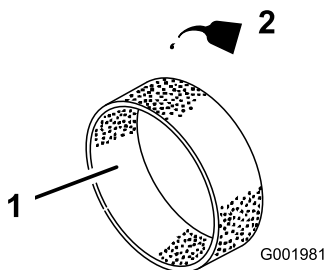

Figure 26
- Put 1 or 2 ounces of oil on the element (Figure 26).